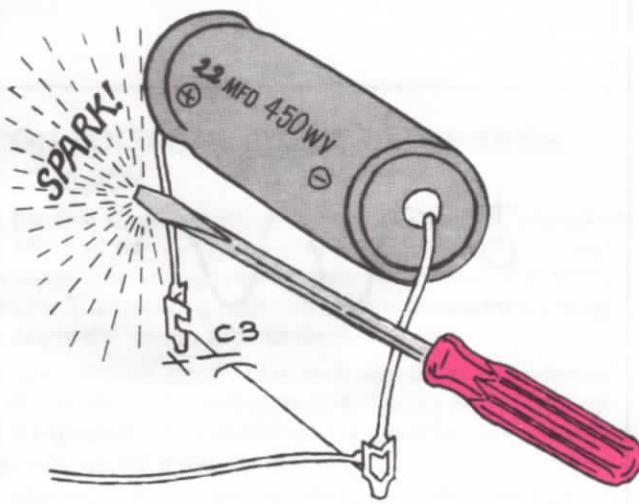

FIG. 21
- _____ g. To prevent a possible shock, discharge capacitor C3, using an insulated screwdriver as shown in Figure 21.
- _____ m. To prevent a possible shock, discharge capacitor C3, using an insulated screwdriver as shown in Figure 21.
_____f. Using a screwdriver or a clip lead, discharge capacitor C3, as shown in Figure 21 to eliminate a possible shock hazard